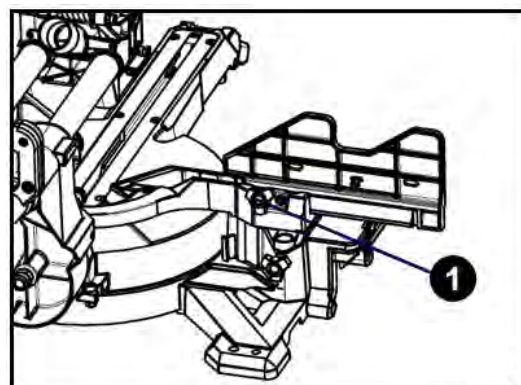

Fig. 6: Mounting the movable stop
Step 1: Loosen the locking knob (Pos. 1, Fig. 6) to release the columns at the stop.